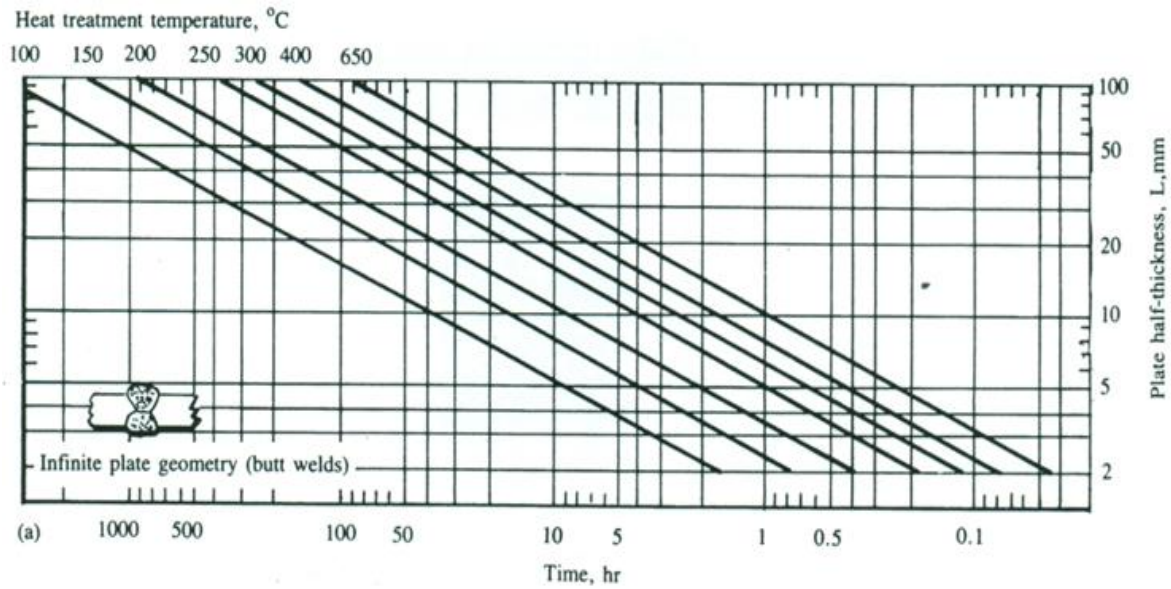

Figure 2: Approximately time for removing 75% of original hydrogen for butt weld
- (b) Assume the amount of hydrogen entrapped in weldment is 20ml. The maximum allowable hydrogen entrapped in weldment for prevention of weld cracking is 10ml. Based on diagram in Figure 2, design a suitable temperature and time for Post weld heat treatment (PWHT) process to prevent weld cracking. Other welding and PWHT process parameter as below.